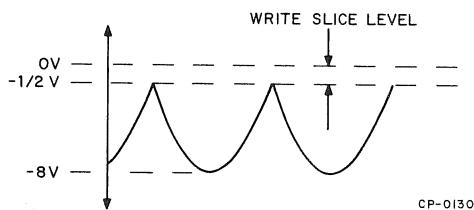

Figure 5-27 Write Slice Level Measurement
5. Measure the compressor waveform as shown in Figure 5-27 and, if necessary, adjust the upper potentiometer on the G060 Module.